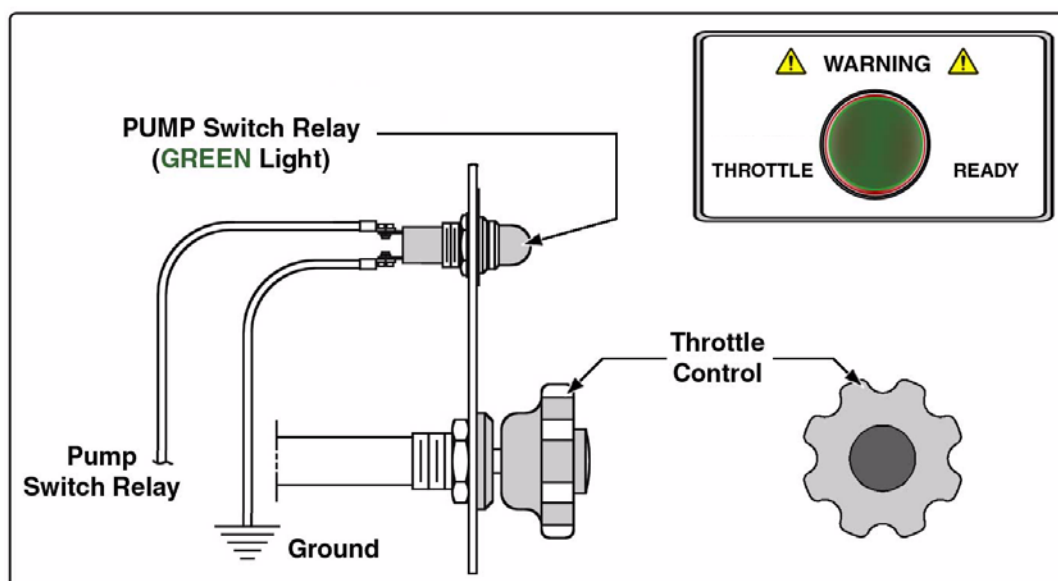

Figure 4-2: Pump Operator's Panel
**DO NOT OPEN THE THROTTLE UNLESS THE GREEN INDICATOR LIGHT IS ON. (SEE FIGURE 4-2: "PUMP OPERATOR'S PANEL" ON PAGE 56.)**
**DO NOT OPEN THROTTLE UNLESS ALL GREEN PUMP INDICATOR LIGHTS ARE ON. (SEE FIGURE 4-2: “PUMP OPERATOR’S PANEL” ON PAGE 56.)**
**DO NOT OPEN THROTTLE UNTIL ALL GREEN PUMP LIGHTS ARE ON. (SEE FIGURE 4-2: “PUMP OPERATOR’S PANEL” ON PAGE 56.)**